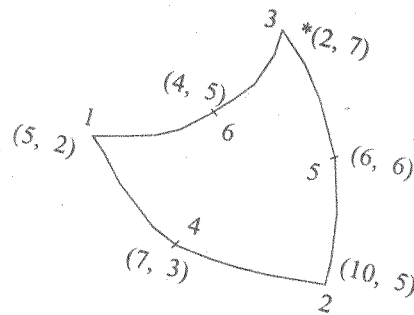

Fig. 5
15. For the quadratic isoparametric triangle shown in Fig. 5, obtain the Jacobian.